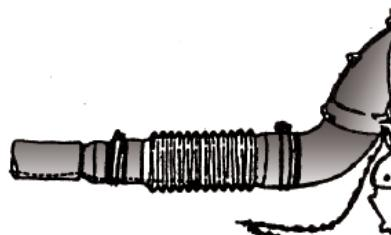

Fig. 6
- Dusting or spreading granules chemical may cause the electrostatics, taht is related to the factors, such as the kind of chemicals, air temperature, air humidity, etc. In order to prevent electrostatics, please use the attachment-insurance chain. When the air becomes dryer, the electrostatics is more serious, in particular when the long membranous tube for dusting and granules spreading is used, electrostatics will often happen. Please pay attention. Assembly as Fig. 6